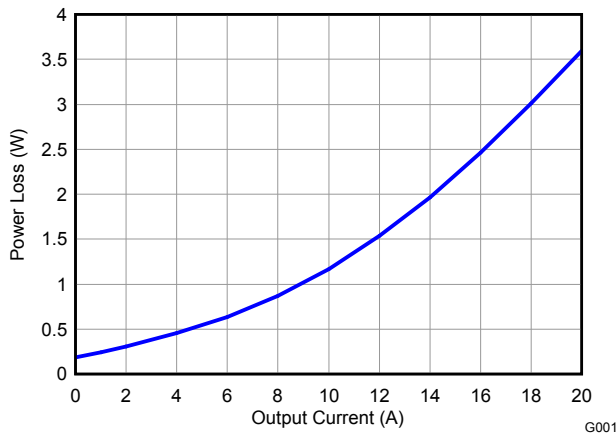

Figure 1. Power Loss vs Output Current
MOSFET centric parameters such as $R_{DS(ON)}$ and Q_{gd} are needed to estimate the loss generated by the devices. In an effort to simplify the design process for engineers, Texas Instruments has provided measured power loss performance curves. Figure 1 plots the power loss of the CSD86330Q3D as a function of load current. This curve is measured by configuring and running the CSD86330Q3D as it would be in the final application (see Figure 32). The measured power loss is the CSD86330Q3D loss and consists of both input conversion loss and gate drive loss. Equation 1 is used to generate the power loss curve.
The power loss curve in Figure 1 is measured at the maximum recommended junction temperatures of 125°C under isothermal test conditions.
- Power Loss at 15A = 2.2W (Figure 1)